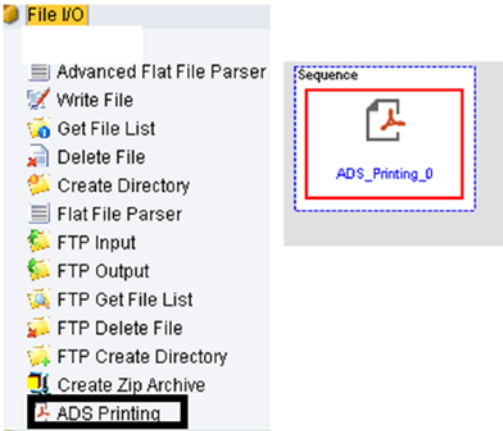

Figure 7-178. ADS Printing action block and its configuration
- **ADS Printing:** ADS printing lets you generate the file in PDF format with barcode/QR code from SAP MII. This can be directly used to print the result to a real printer, to save it in the file system, or feed it to a web browser, as shown in Figure 7-178.